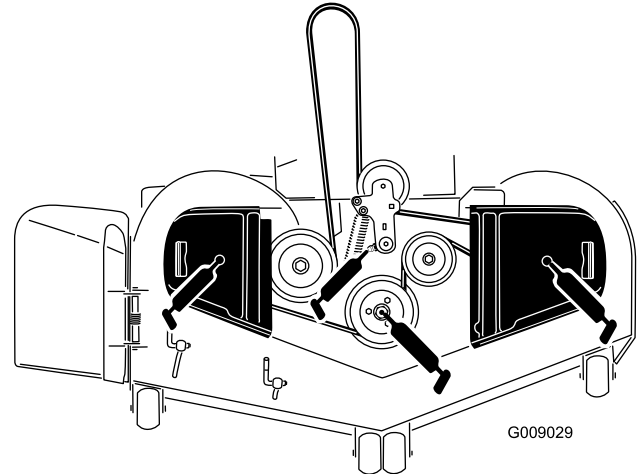

Figure 42
3. Grease the mower-deck idler pulley pivot until grease comes out the bottom (Figure 42).
4. If you machine has greasable spindles, grease the 3 spindle bearings until grease comes out the lower seals (Figure 42).